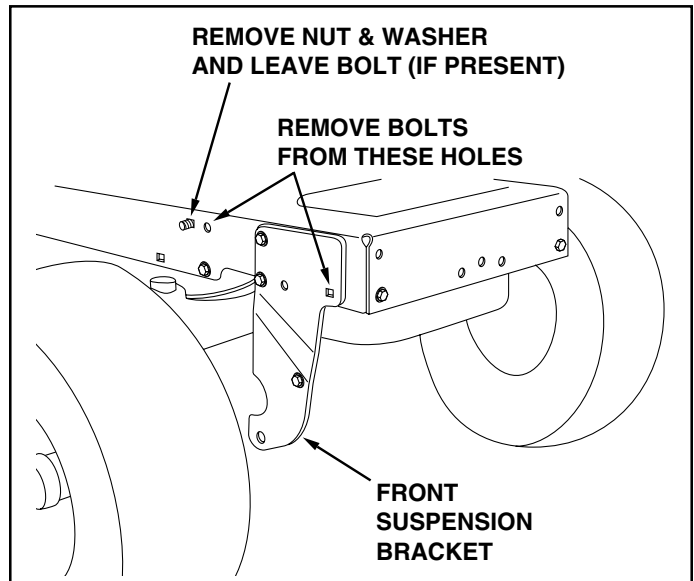

FIGURE 1
1. Remove two bolts from each side of the tractor frame as shown in figure 1.
2. If there is a third bolt on the right side, as shown in figure 1, remove the nut and washer from the bolt.